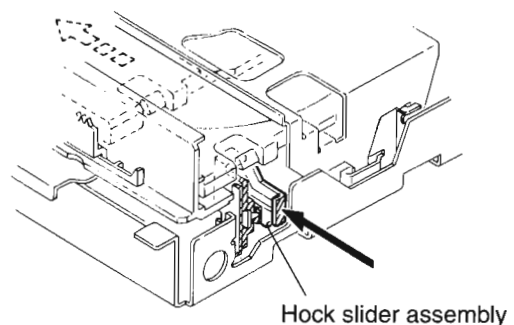

Fig. 19
1. Press forward the hock slider assembly unit it stops as shown in Fig. 19.